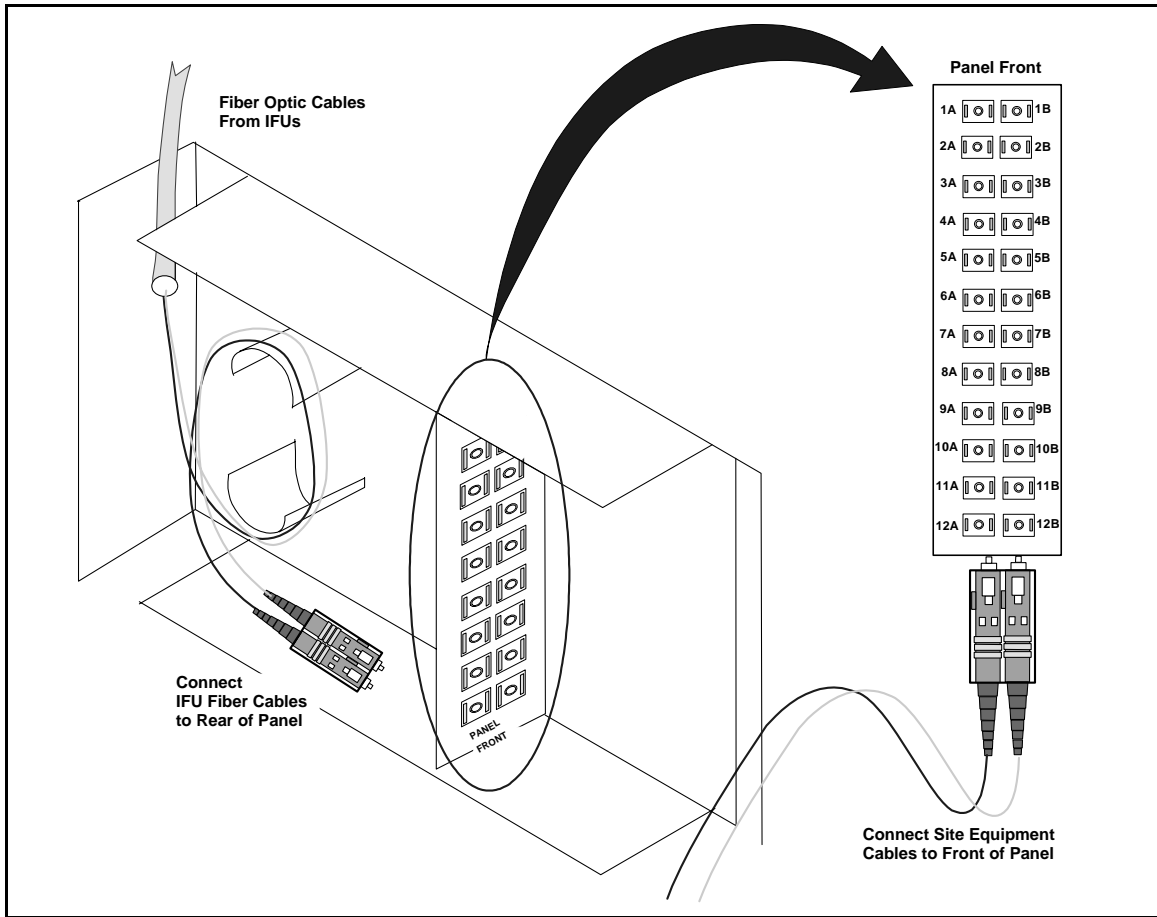

Figure 3-6. Demarcation Patch Panel
- 2 Connect the IFU fiber optic cables to the rear side of the patch panel as shown in Figure 3-6 and Table 3-4.
- 3 Connect the jumpers to the front of the demarcation patch panel as shown in Figure 3-6, Figure 3-7, Figure 3-8 and Table 3-5.